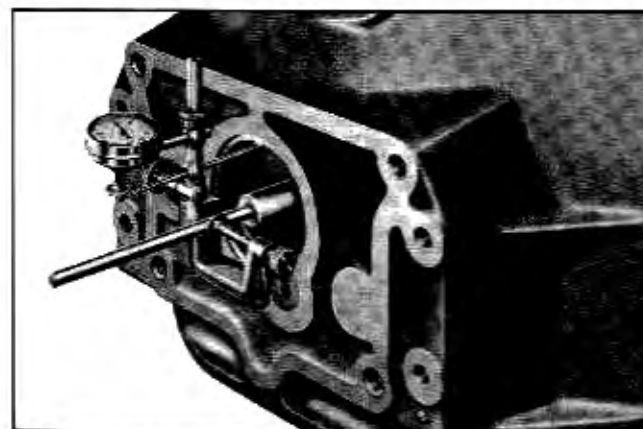

Fig. 7-28 Dial Indicator Positioned for Checking Housing Hole
2. Install alignment checking tool J-5128 and install dial indicator on stem of checking tool. Arrange hole attachment of dial indicator so its forward tip contacts inside diameter of pilot hole in clutch housing (which front transmission bearing enters when transmission is in place) as shown in (Fig. 7-28).